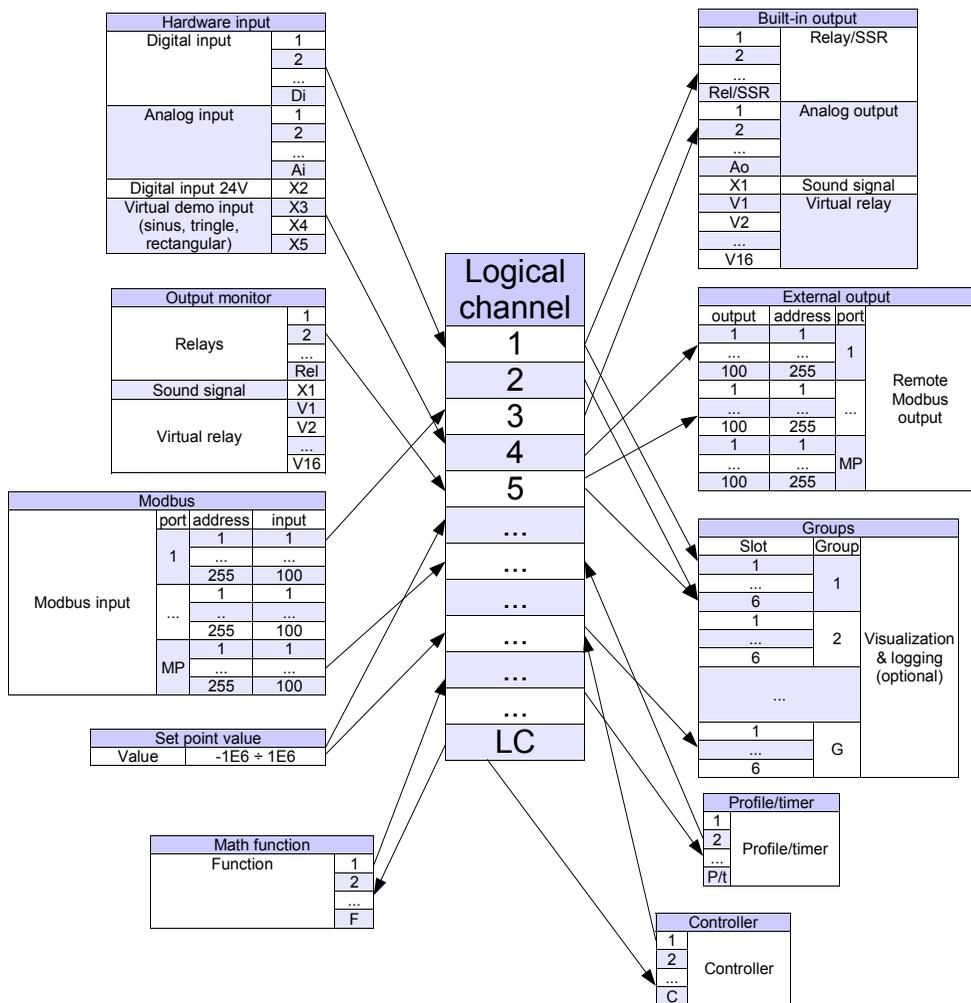

Fig. 5.1. The overall connections structure of the Logical channel with the device I/O
**Fig. 5.1** shows the general structure of connections between logical channels and device inputs/outputs. Each of the **Logical Channels** can be configured to represent: